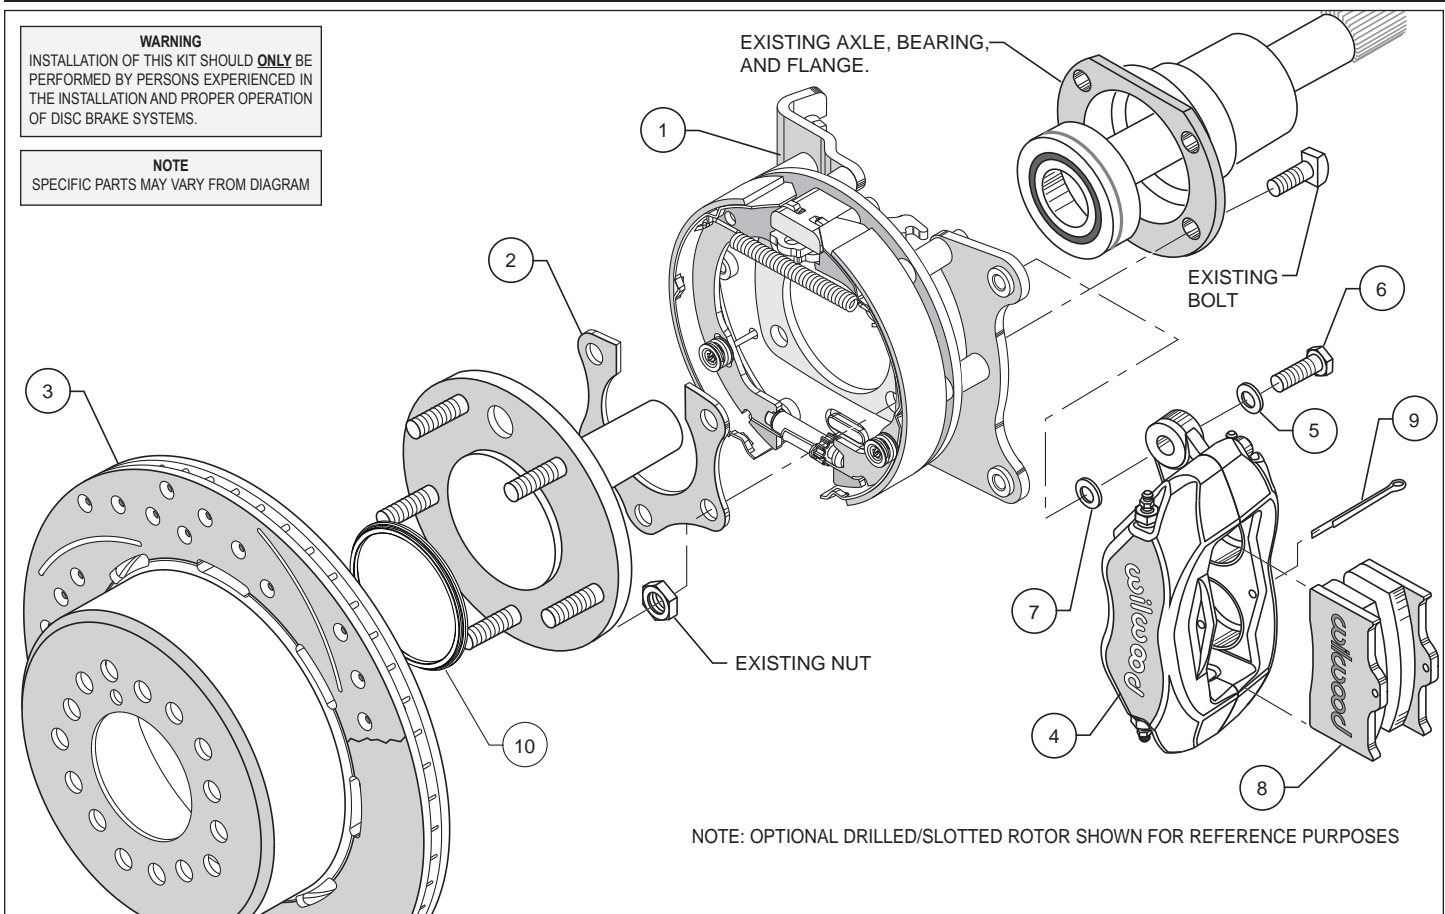

Figure 3. Typical Installation Configuration
- Axle center register diameter is 2.80", Figure 3. This kit may be supplied with Wilwood's removable center register adapters for rotors with larger 3.06" registers. Other rotors may have smaller 2.80" register and will not require or be supplied with register adapters.